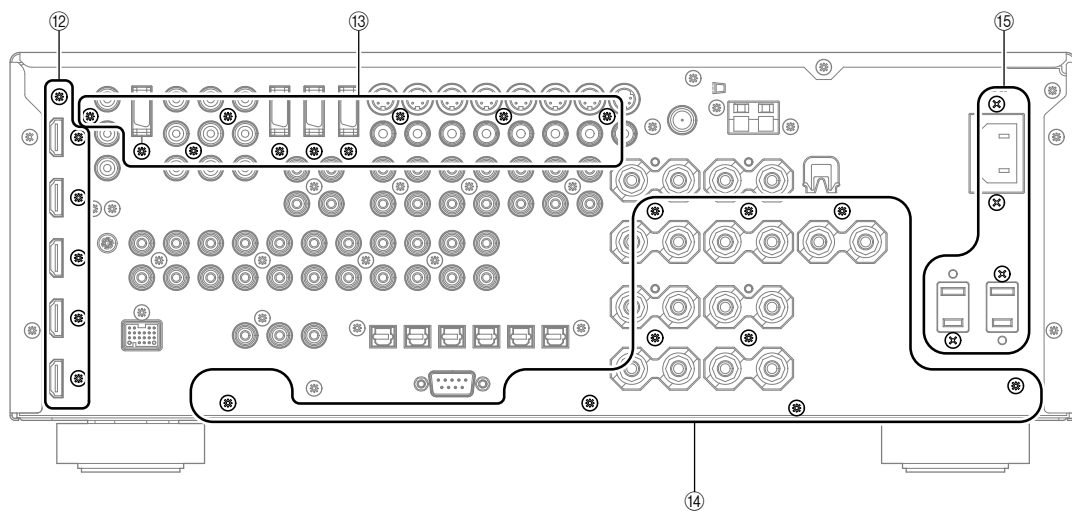

Fig. 6
- Remove 6 screws (⑫). (Fig. 6)
- ⑫のネジ6本を外します。(Fig. 6)
- Remove 6 screws (⑬). (Fig. 6)
- ⑬のネジ10本を外します。(Fig. 6)
- Remove 11 (U, C, T, A, B, G, E models) / 13 (R, L models) screws (⑭) and 4 (U, C, R, T, A, B, G, E, L models) / 2 (K model) screws (⑮). (Fig. 6)
- ⑭のネジ9本、⑮のネジ4本を外します。(Fig. 6)